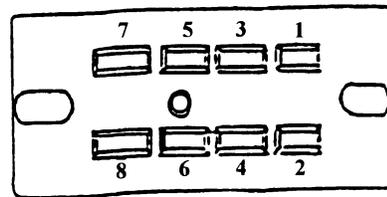

Figure 3
2. Remove the terminal from location 3 of changer socket (See figure 3 above) using the removal instructions on page 3.
4. Remove terminal from location 7 of changer socket (See figure 3 above) using the removal instructions on page 3.
7. Insert wire #3 of the conversion harness in changer socket location 3. (See figure 3, page F1.)
8. Insert wire #4 of the conversion harness in changer socket location 4. (See figure 3, page F1.)
9. Insert wire #7 of the conversion harness in changer socket location 7. (See figure 3, page F1.)
10. Insert wire #8 of the conversion harness in changer socket location 8. (See figure 3, page F1.)